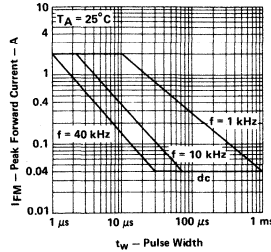

FIGURE 1
2. This value applies for tw ≤ 10 μs, f ≤ 1 kHz. See Figure 1.